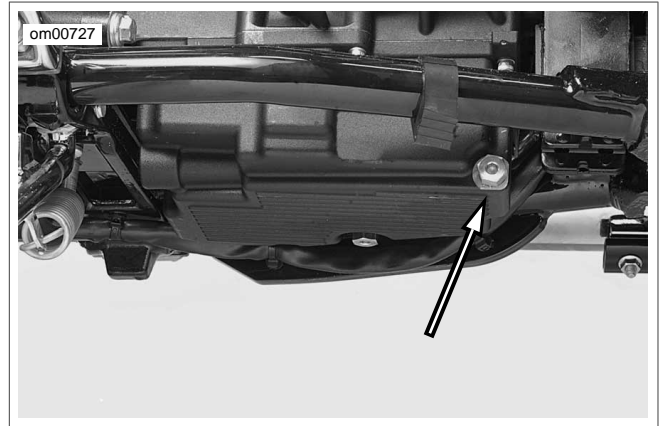

Figure 1-3. Engine Oil Drain Plug (oil pan under transmission, view from left side of vehicle)
3. See Figure 1-3. Remove the engine oil drain plug with oiling. Allow oil to drain into a suitable container.
6. See Figure 1-3. Install oil pan drain plug (1).